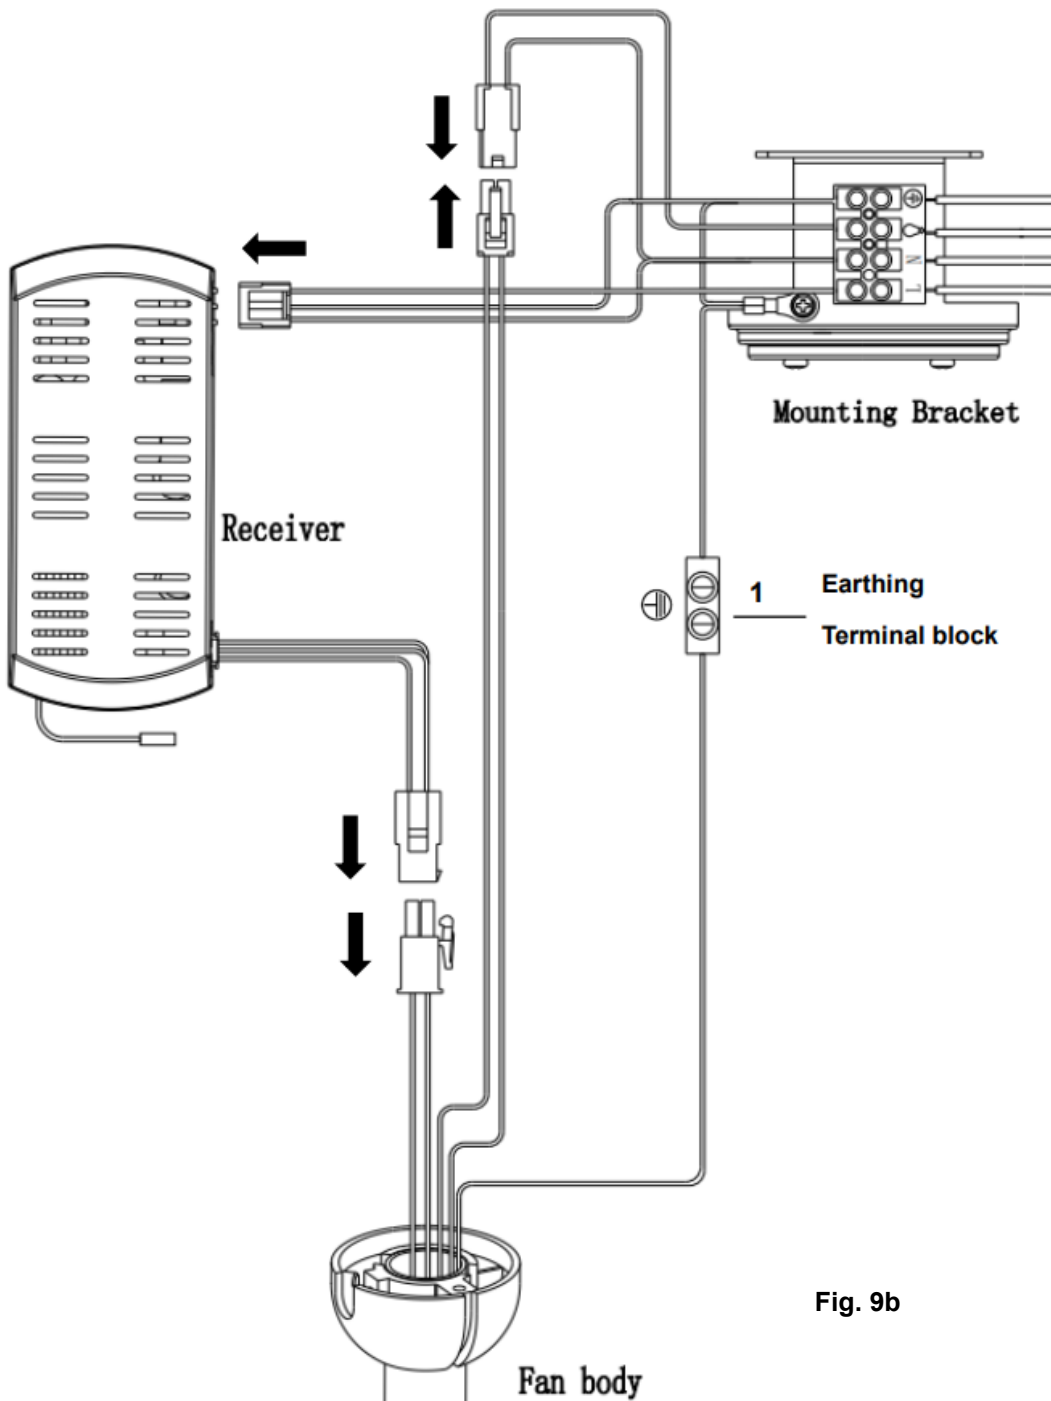

Fig. 9b
(Fig. 9b)
From mounting bracket to fan control unit and motor (Fig. 9b)
9. Ensure the fan assembly earth wire is connected to the single earthing terminal block "1" in the diagram for (Fig.9b).